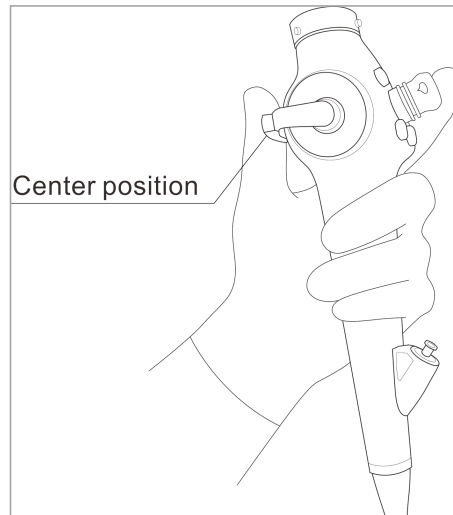

Fig. 3.6
2. As shown in Fig. 3.6, when the up/down angle control handle is moved to the natural position, make sure that the bending section can return to straight condition smoothly.